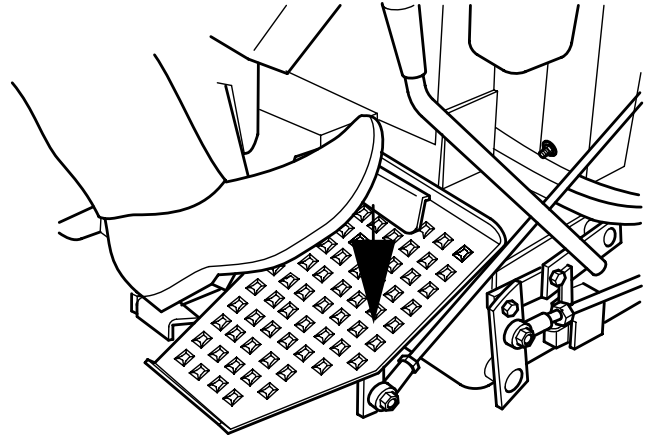

Figure 4-6 Forward - Depress Toe End of Pedal
1. To travel forward, depress the right foot pedal at the toe. (See Figure 4-6). The further the pedal is depressed the faster the mower will travel forward.